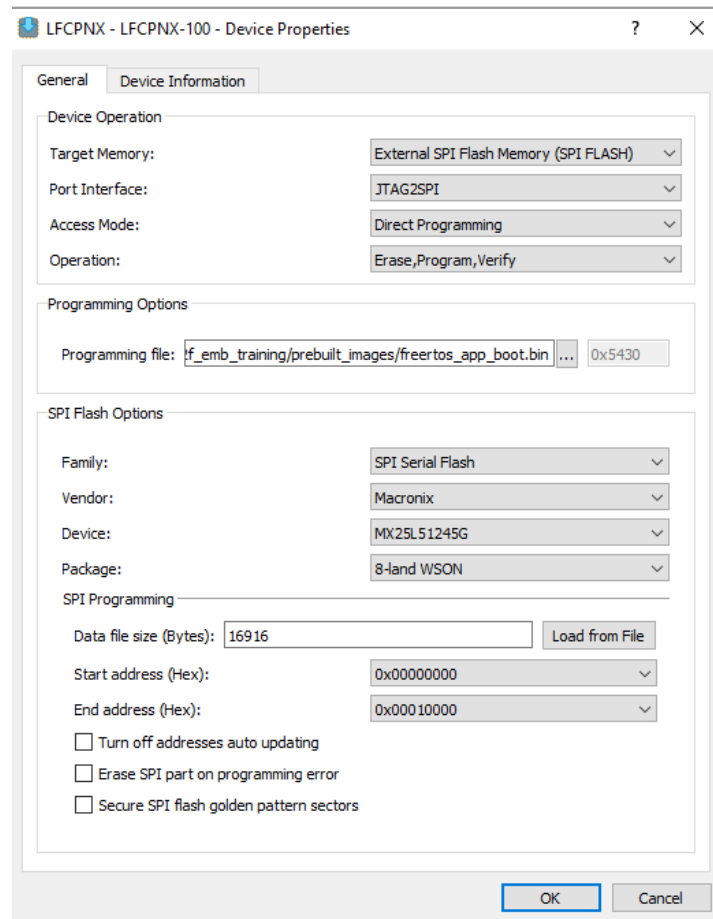
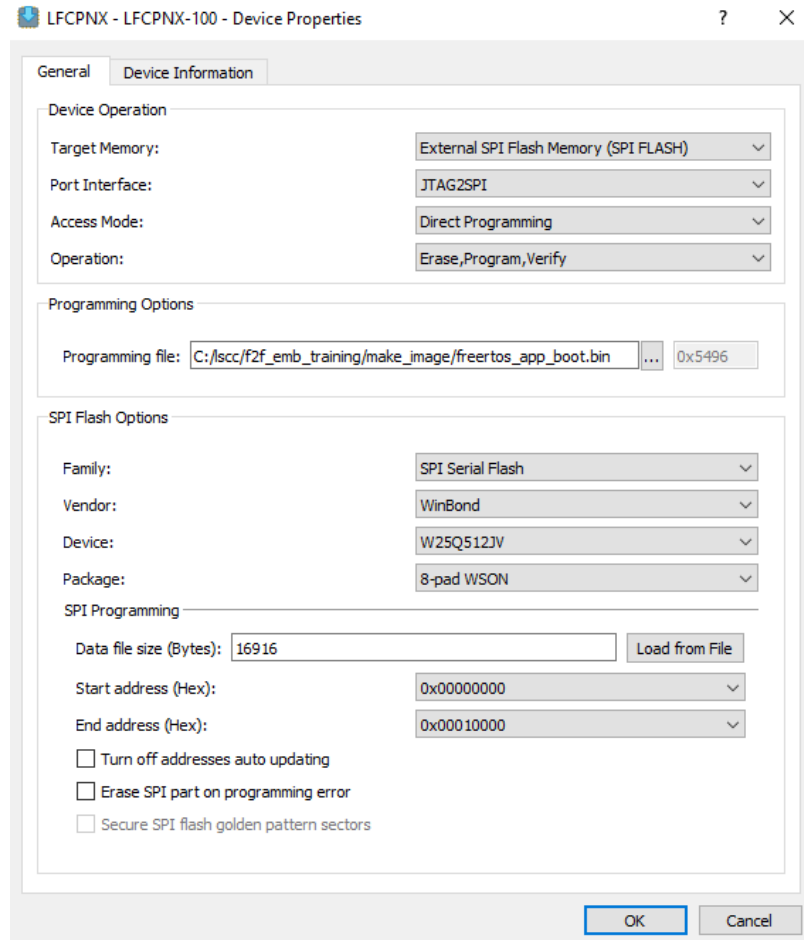

Figure 10.1. Flash Device Properties for Macronix
Figure 10.2. Flash Device Properties for Winbond
2. In the **General** tab, select the options as shown in Figure 10.1 (if using Macronix flash device) or Figure 10.2 (if using Winbond flash device).